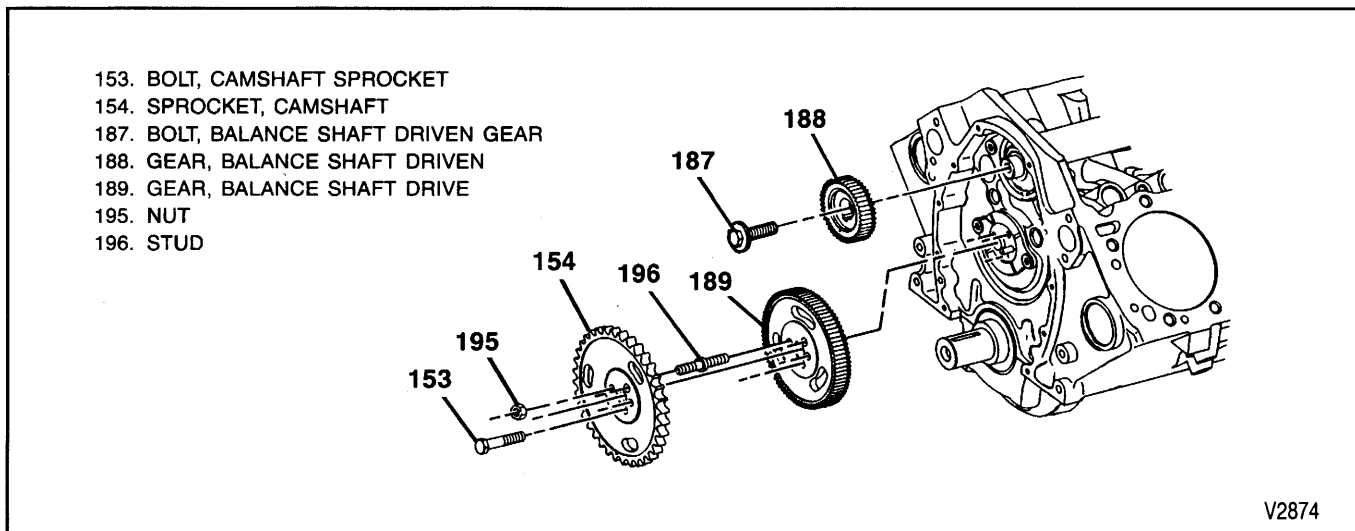

Figure 28—Balance Shaft Drive and Driven Gears
- ↔ Remove or Disconnect (Figures 28 through 36)
12. Balance shaft driven gear (figure 28).